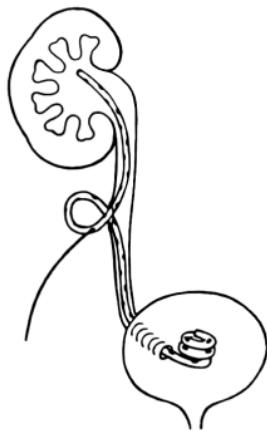
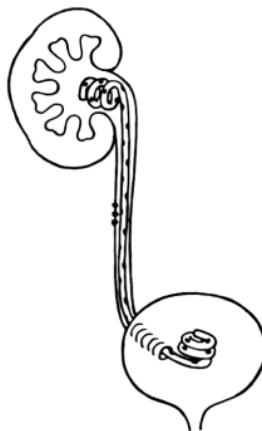

Fig. 4
Fig. 5
5. Grasping the stent and wire guide, advance the stent through the same incision and into the renal pelvis (**Fig. 4**). Remove the wire guide, allowing the stent coil to re-form (**Fig. 5**).